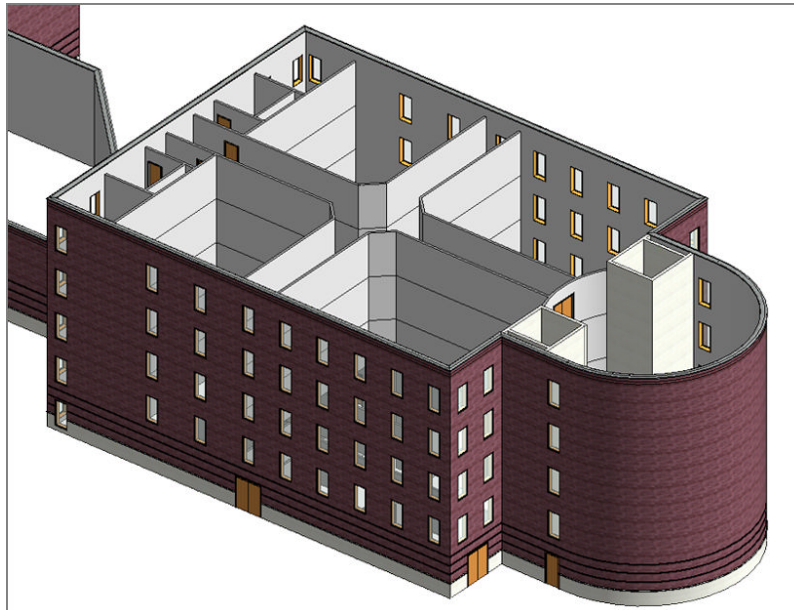

FIGURE 4.56: Using Copy/Paste, align the windows to the higher floors. This will influence your floor layout for each level.
8. Select the windows on Level 2, go to a 3D view, and, using Copy and Paste > Aligned To Selected Levels, align them all the way to Level 5. This way, you know your windows are aligned, and you can follow this procedure in your room layout for each floor (see Figure 4.56).